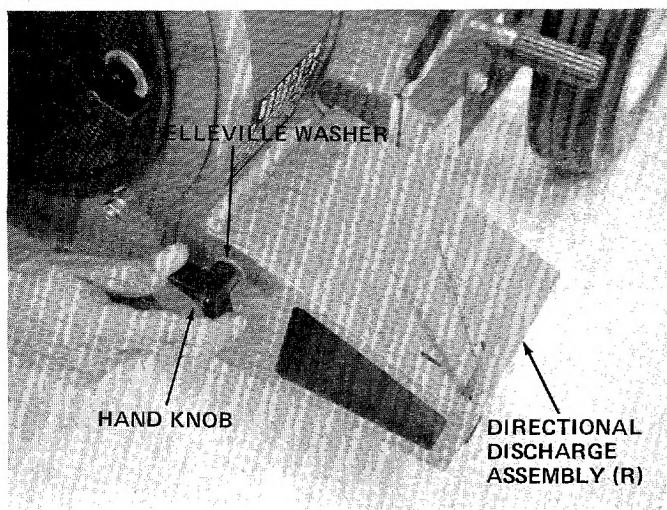

FIGURE 13.
7. Place the directional discharge assembly (R) over chute opening. Secure with two hand knobs and belleville washers. See figure 13.